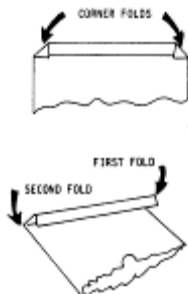

Figure 3-6
1. Properly install paper envelope over the filter screens. Fold the open end of the envelope, and clamp with retaining clips so that crumbs cannot enter. Figure 3-6.